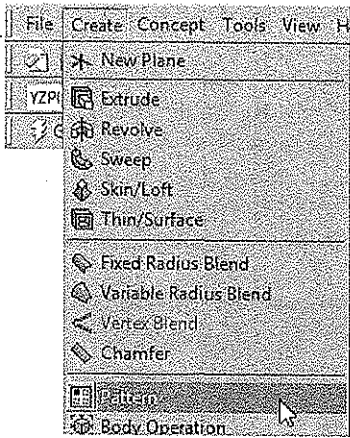

Figure 5-17 Partial view of the Create menu
1. Choose the **Pattern** tool from the **Create** menu, refer to Figure 5-17; you are prompted to select a geometry to create the pattern. Also, **Pattern 1** is added in the Tree Outline.